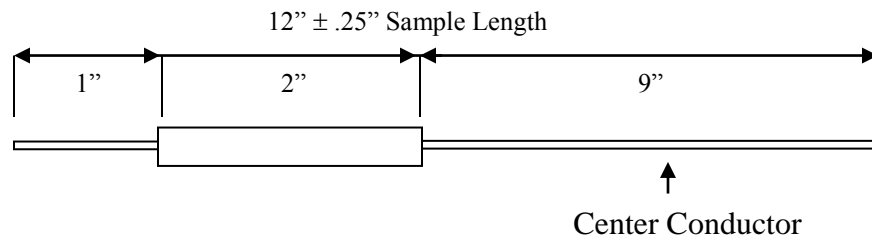

Figure 1
- 5.1. From a test sample, carefully remove outer jacket and braid from the core. Bonded foil may be left on test specimen. Carefully remove dielectric from each end of the sample as shown in Section 3.0 (Figure 1).